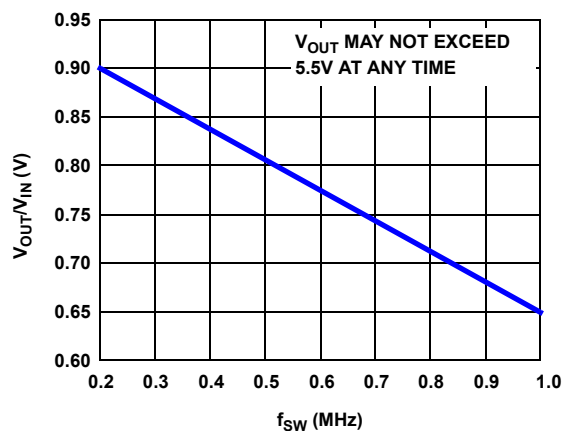

FIGURE 8. MAXIMUM CONVERSION RATIO, $T_J \leq +125^\circ\text{C}$
- Refer to Safe Operating Area in Figure 8 and thermal design guidelines in AN2010.
- Percentage of Full Scale (FS) with temperature compensation applied.